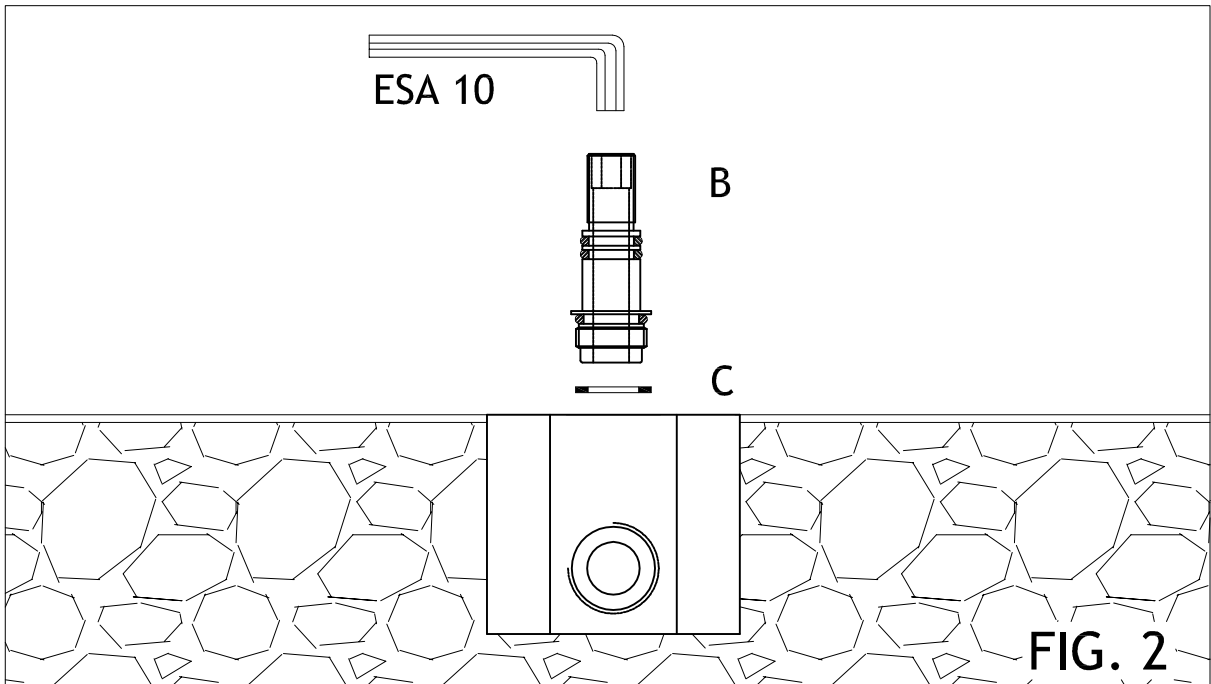

FIG. 2
- Unscrew protection lid (A) and check that gasket (C) is inside ½" thread (FIG 2).
(FIG 2)